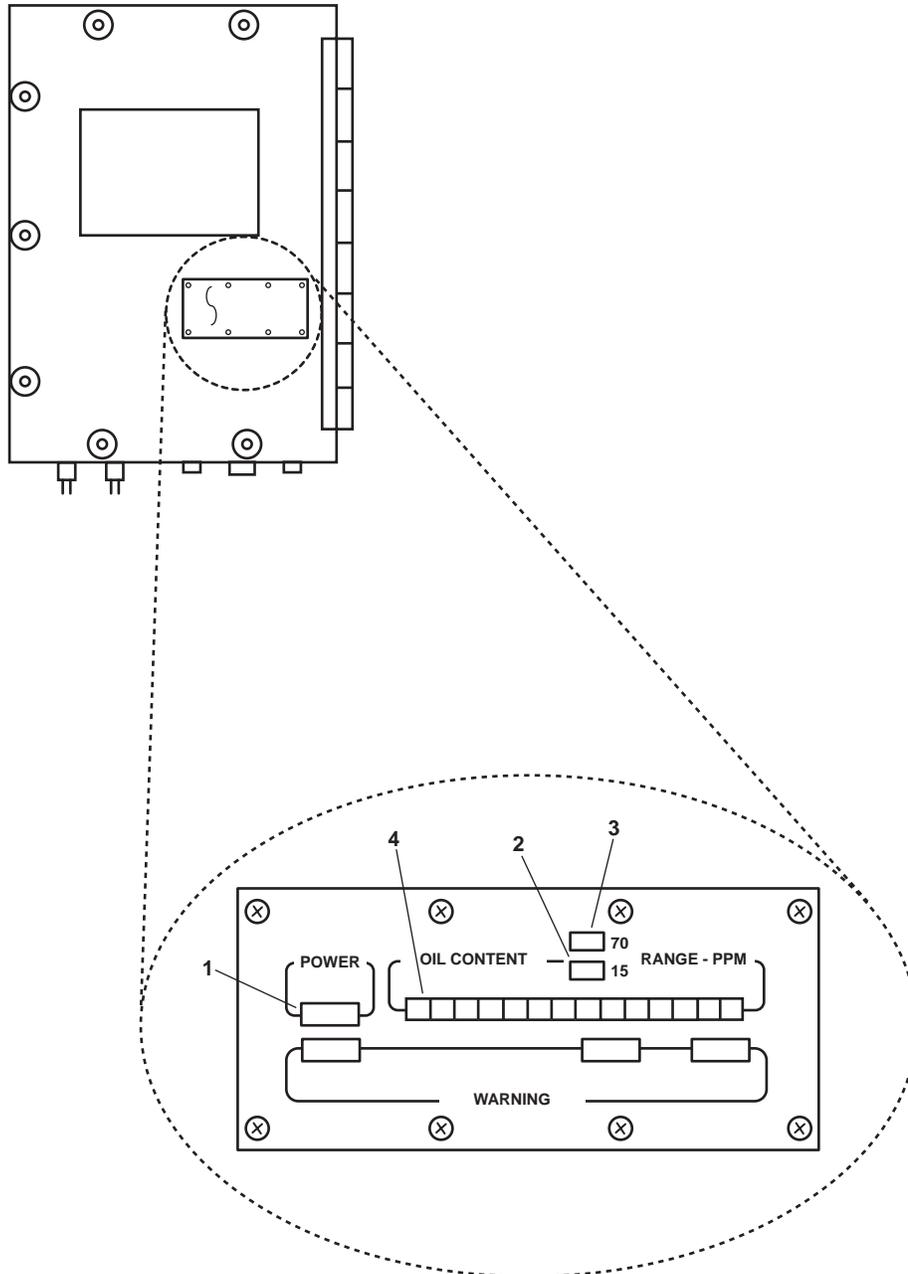
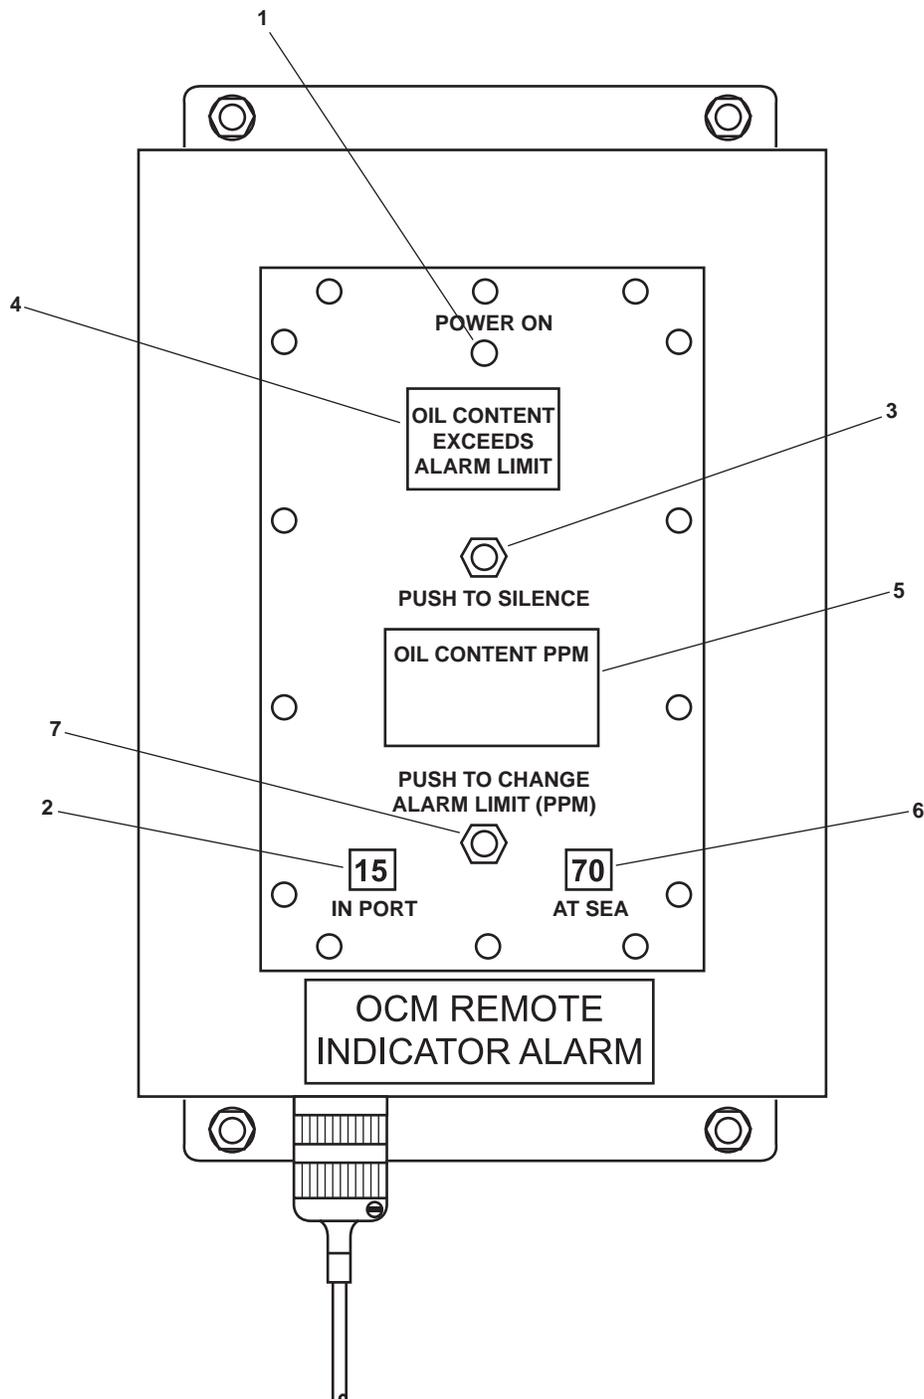

Figure 4. Sampling/Sensor Assembly Indicators
Figure 5. Remote Indicator Alarm Assembly, Controls, and Indicators
- a. The sampling/sensor assembly POWER indicator (figure 4, item 1) lights up green, and the 15 PPM range indicator (figure 4, item 2) lights up.
- d. The OCM remote indicator alarm assembly display POWER indicator (figure 5, item 1) lights up green, and the IN PORT 15 PPM indicator (figure 5, item 2) lights up.
- a. The sampling/sensor assembly POWER indicator (figure 4, item 1) lights up and the 15 PPM range indicator (figure 4, item 2) lights up.
- b. The OCM remote indicator alarm assembly's POWER indicator (figure 5, item 1) lights up.
- c. The OCM remote indicator alarm assembly's IN PORT 15 PPM indicator (figure 5, item 2) lights up.
- a. The sampling/sensor assembly 70 PPM range indicator (figure 4, item 3) lights.
- b. The OCM remote indicator (alarm) assembly 70 PPM AT SEA indicator (figure 5, item 6) lights up with the OPERATION SELECTOR switch (A1S1) (figure 1, item 4) in the AUTO position.
11. Switch the ALARM LIMIT (PPM) SELECTOR switch (A1S2) (figure 1, item 12) to the REMOTE position. Press PUSH TO CHANGE THE ALARM LIMIT (PPM)(A2S1) push button (figure 5, item 7) to alternately select 15 PPM IN-PORT and 70 PPM AT-SEA.
12. Observe that the sampling/sensor assembly LED indicator's (figure 4, items 2 and 3) ranges match the OCM remote indicator (alarm) assembly in port and at sea indicators (figure 5, items 2 and 6).
13. While the OCM is alarming, press the PUSH TO SILENCE (A2S2) button (figure 5, item 7) on the OCM remote indicator alarm assembly and observe that the audible buzzer is silenced. The buzzer will automatically sound the next time the OCM experiences an alarm condition.
- a. Within 20 seconds, the sampling/sensor assembly's red and green LEDs (figure 4, item 4) will begin to flash.
- b. Within 20 seconds, the OCM remote indicator alarm assembly's red OIL CONTENT EXCEEDS ALARM LIMIT indicator (figure 5, item 4) will light up, a high numerical PPM value will be displayed on the OIL CONTENT PPM display (figure 5, item 5), and the audible alarm will buzz.
- a. The sampling/sensor assembly's red and green LEDs (figure 4, item 4) stop flashing and display a low-level reading (0 to 3 ppm).
- b. The OCM remote indicator alarm assembly buzzer silences, and the OIL CONTENT PPM (figure 5, item 5) display shows a low-level reading (0 to 3 ppm).
- b. Verify that the sampling/sensor assembly activates and the POWER indicator (figure 4, item 1) lights up.
- b. Within 20 seconds, the sampling/sensor assembly's red green LEDs (figure 4, item 4) will begin to flash.
- a. The sampling/sensor assembly POWER indicator (figure 4, item 1) lights green and the 15 RANGE PPM indicator (figure 4, item 2) lights up.
- c. The OCM remote indicator alarm assembly POWER indicator (figure 5, item 1) lights green, and the IN PORT 15 PPM indicator (figure 5, item 2) lights up.
- b. The OCM remote indicator alarm assembly's POWER ON indicator (figure 5, item 1) lights up, and the 15 IN PORT indicator (figure 5, item 2) lights up.
- b. The OCM remote indicator alarm assembly's AT-SEA indicator (figure 5, item 6) lights up.
12. Press the OCM remote indicator alarm PUSH TO CHANGE ALARM LIMIT (A2S1) button (figure 5, item 7) to alternately select IN PORT (figure 5, item 2) and AT SEA (figure 5, item 6).
14. While the OCM is alarming, press the PUSH TO SILENCE (A2S2) button (figure 5, item 4) on the OCM remote indicator alarm assembly and observe that the audible buzzer is silenced. The buzzer will automatically sound the next time the OCM experiences an alarm condition.